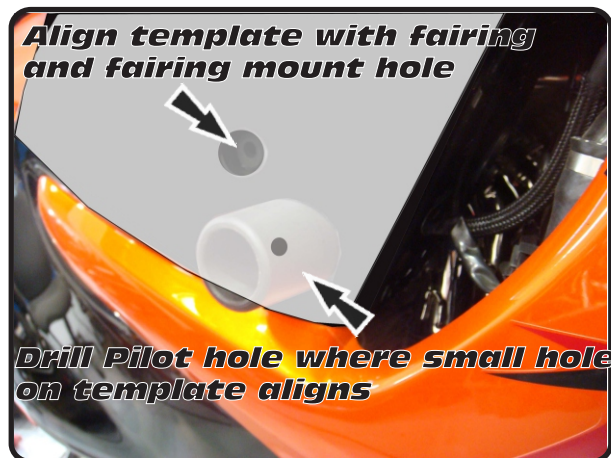

Fig. 1
1. Remove the side cowlings on the right and left side (shown in Fig. 1) to expose engine mounting bolts.
3. Use the cutting templates provided to locate the hole saw starting point on the side cowlings. Align the smaller holes on the cutting template with the two upper mounting bolt holes on cowlings (see Fig 1). Tape template to fairing and place a mark on the cowling where the center of the "chassis protector location cutout" aligns.
**Note (2):** The long aluminum spacer is used on the left side of the motorcycle. The short aluminum spacer is used on the right side.